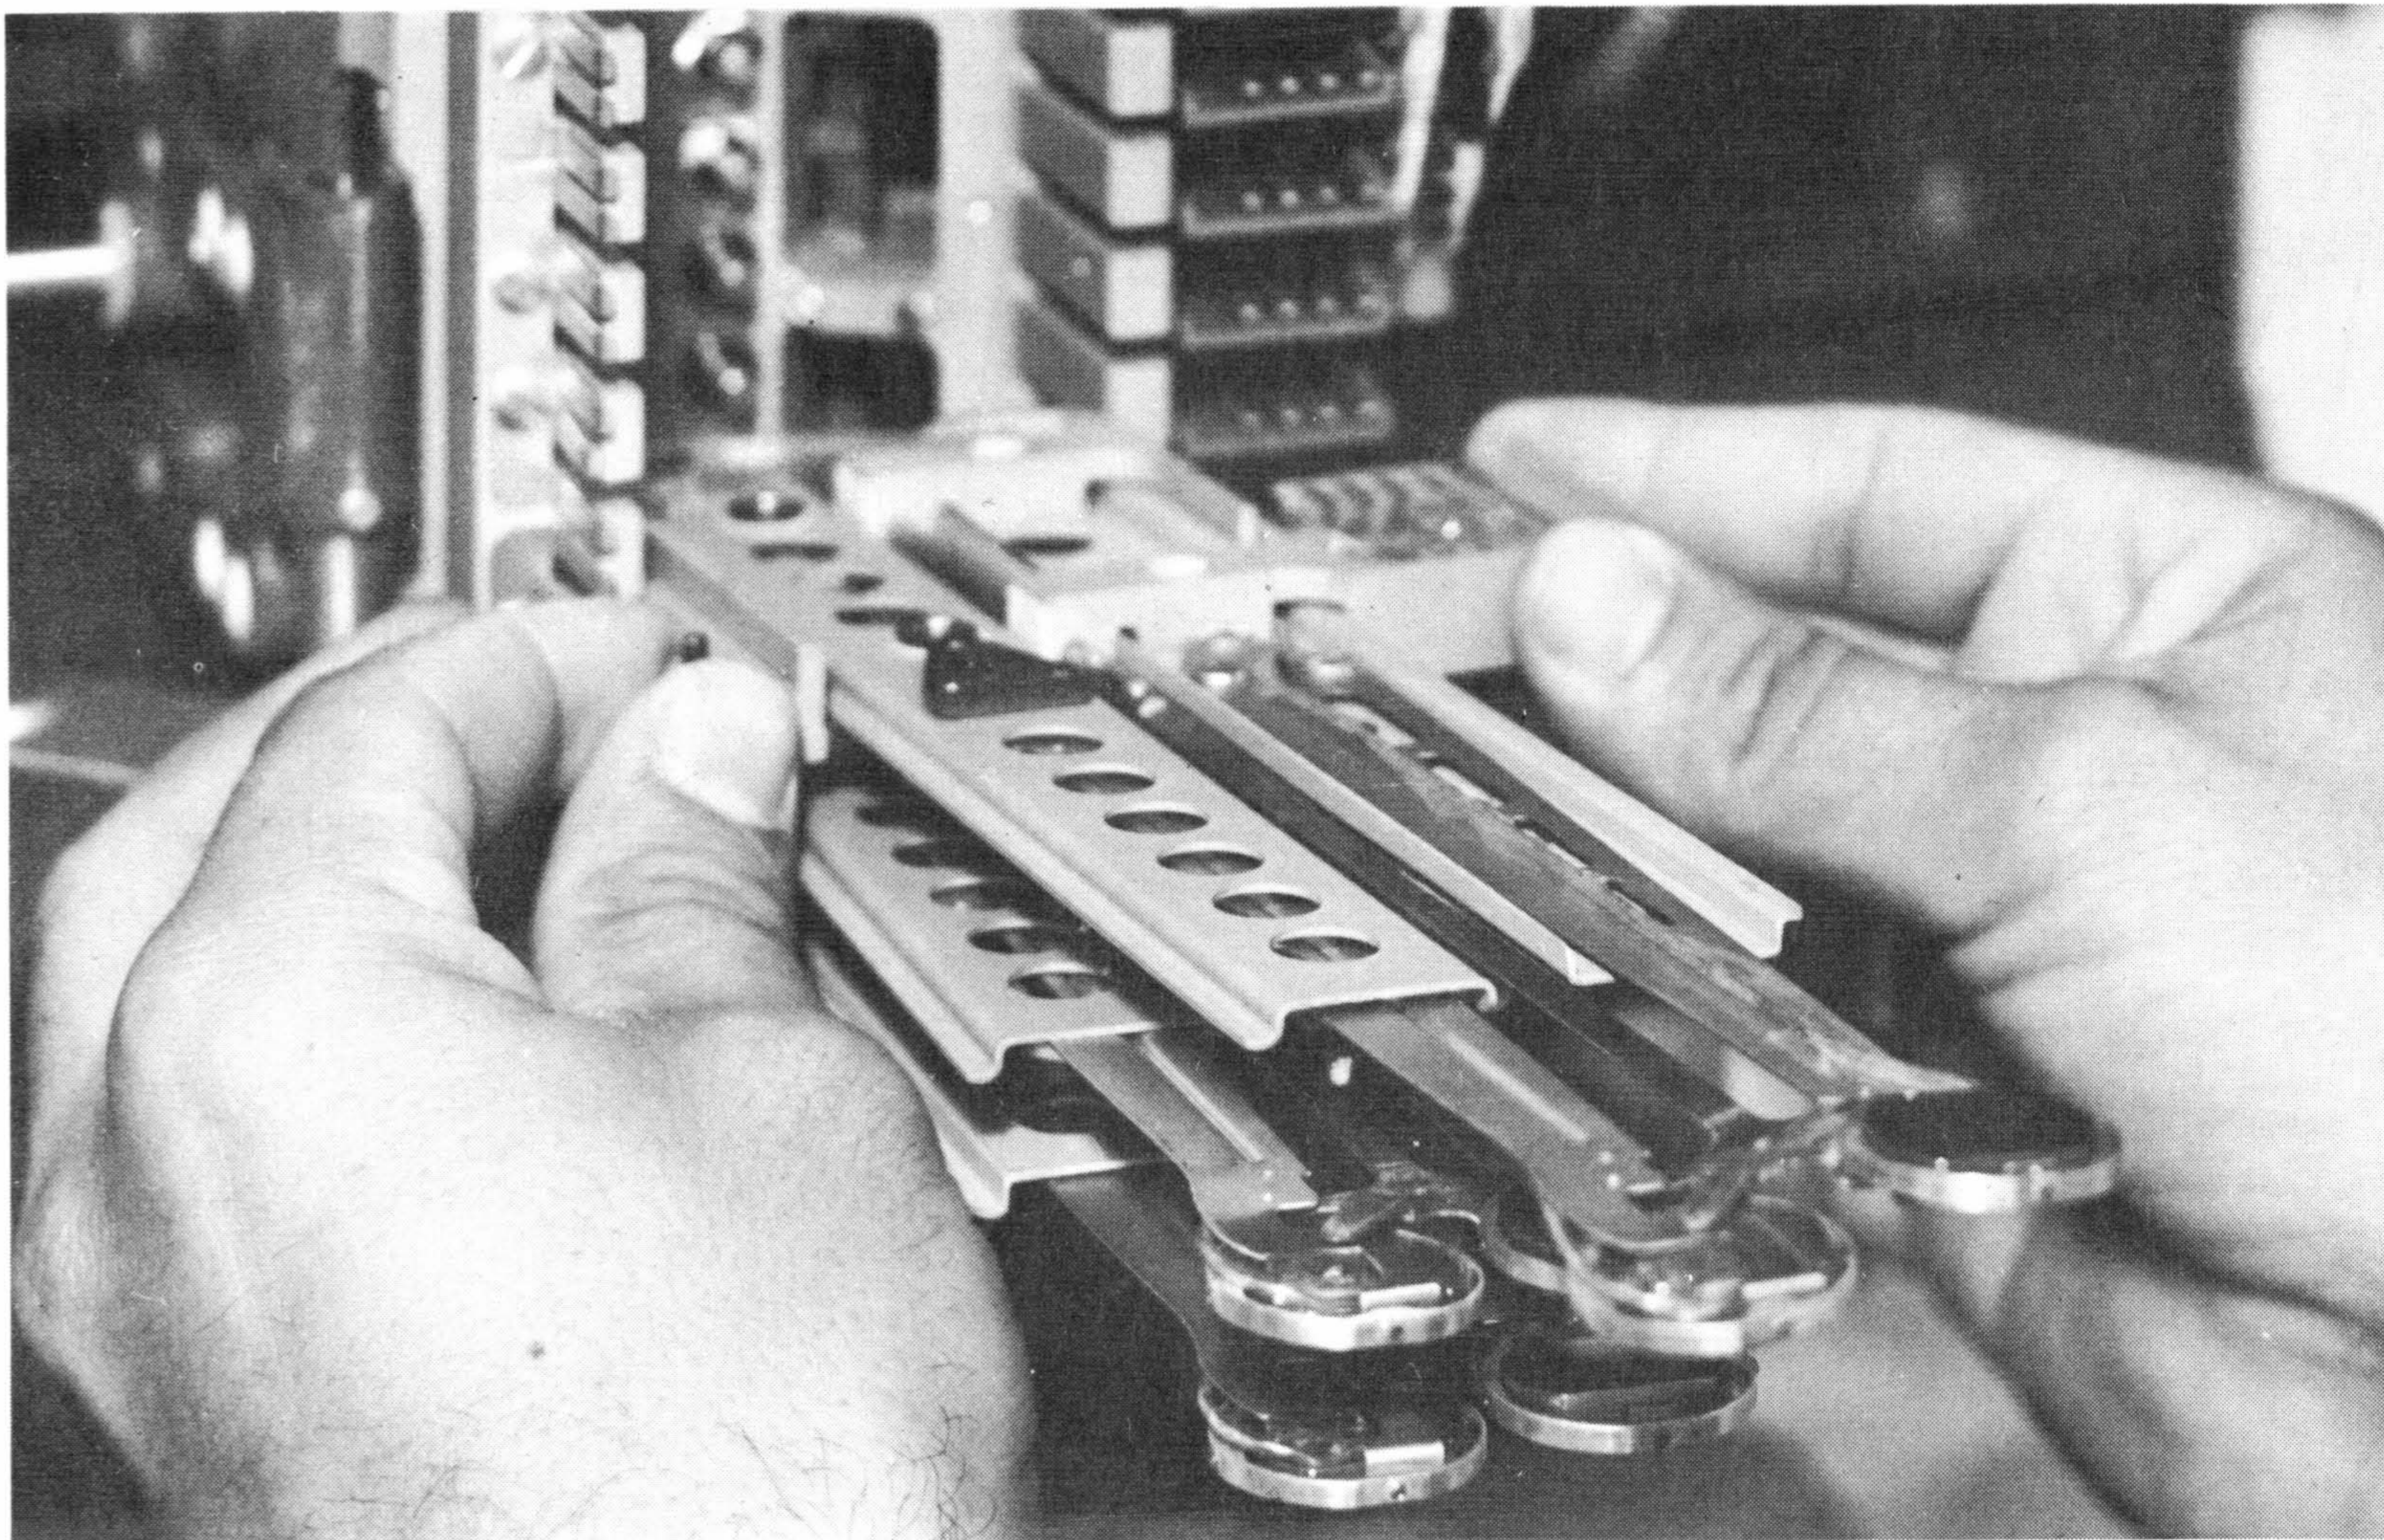

Figure 2-27. Drawer Insertion
4. Insert drawer (Figure 2-27).